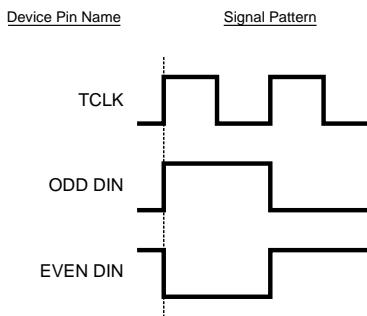
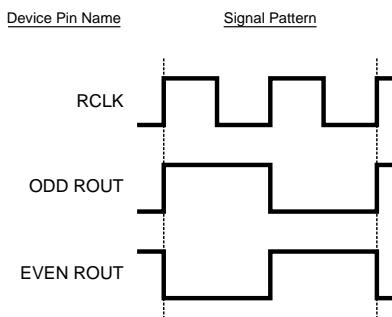

Figure 1. Serializer Input Checker-board Pattern
Figure 2. Deserializer Output Checker-board Pattern
(1) *Figure 1, Figure 2, Figure 8, Figure 12, and Figure 14*, show a falling edge data strobe (TCLK IN/RCLK OUT).